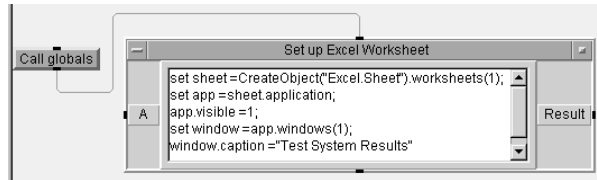

Figure 9.3. Setting up the Microsoft Excel™ worksheet
18. Enter, inside “Set up Excel Worksheet”, the formula lines as follows; see Figure 9.3.